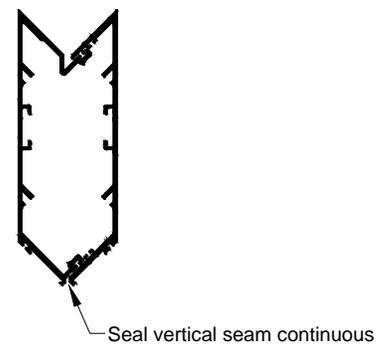

Fig. 54.2
- xiii. Seal the seam at the front of all outside and inside corner mullions per Fig. 54.2.